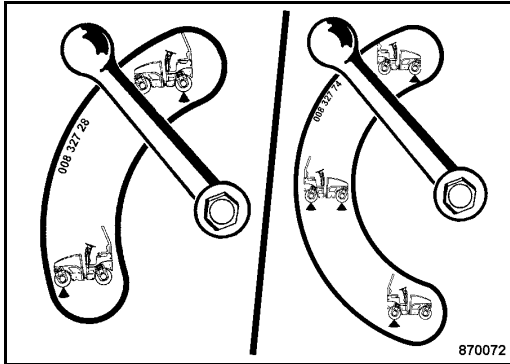

Fig. 72
- Pre-select the desired drum or drums with the ball valve (Fig. 72).